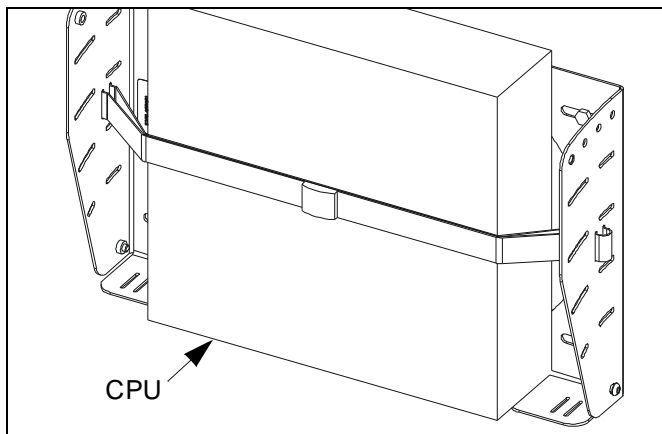

Figure 6: Insert CPU
4. Carefully slide CPU between strap (20) and rear surface of side plates (See Figure 6). Ensure the following:
- Both loops of strap (20) are in front of the CPU; do not wrap strap (20) around back of CPU.